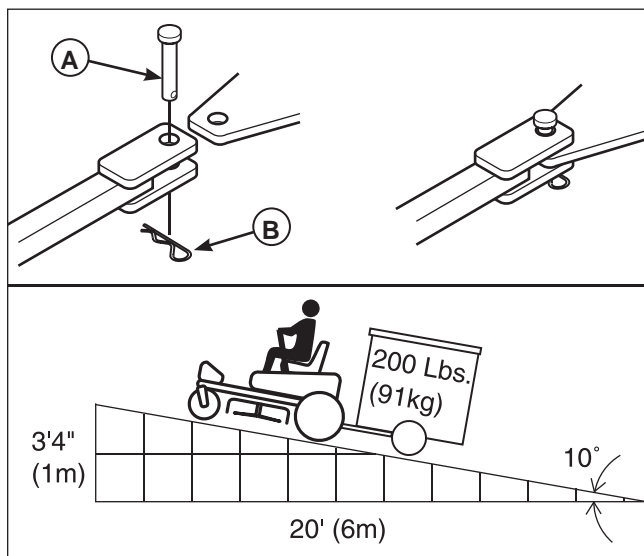

Figure 17. Trailer Weight Recommendations
The maximum weight of a towed trailer should be less than 200 lbs (91kg). Secure the trailer with an appropriately sized clevis pin (A, Figure 17) and clip (B).